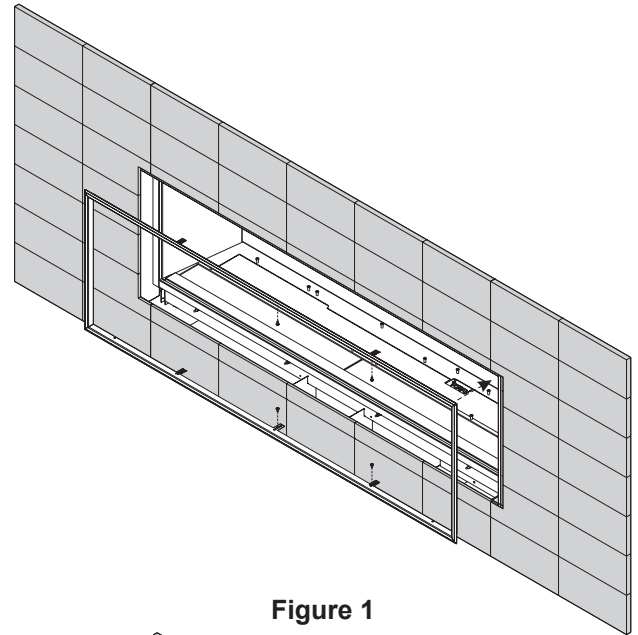

Figure 1
4. Place the Trim Frame into the fireplace opening with the screw tabs facing inward. **See Figure 1.**